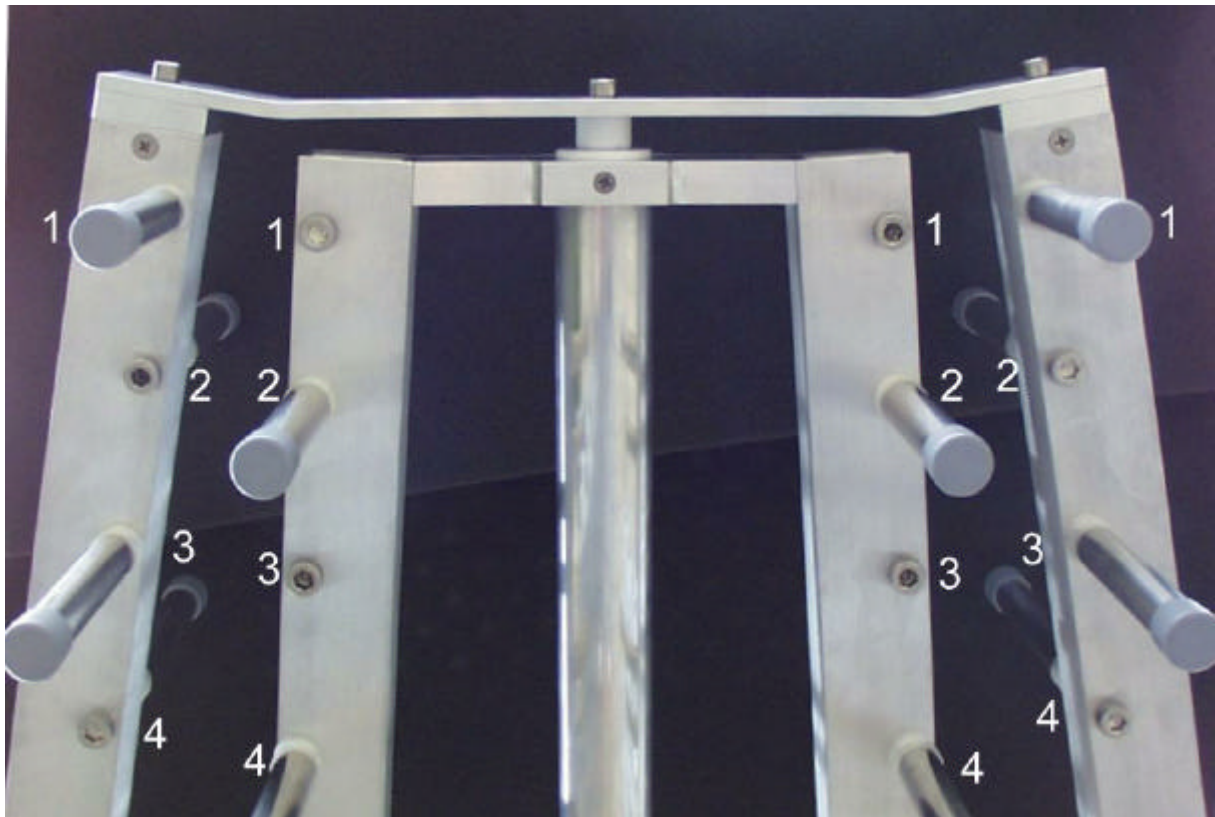
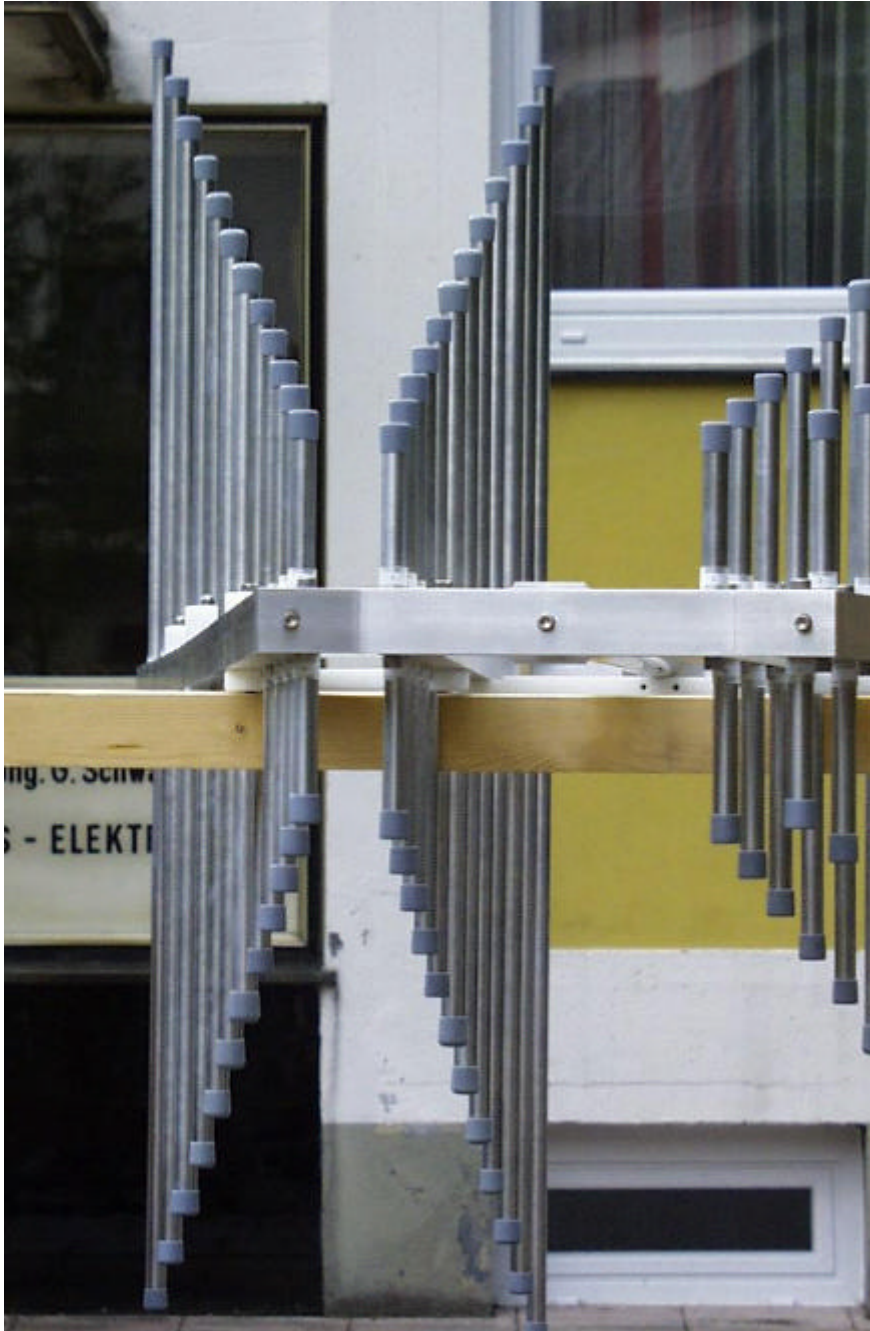

Figure 5: Antenna tip with aluminium bar and screw locations
Figure 6: View inside one LP wing with correct element assembly
**Step 3:** The aluminium elements are connected to the LP-wings. It is advisable to begin with the shortest 4 elements (labelled with 1) near the tip and to continue with the next larger 4 elements (labelled with 2) and so on. Figure 5 shows the correct element order and orientation. The INBUS wrench should be used for this work. Mixing up the element order causes frequency selective bandbreaks in the antenna performance. The correct element order can be checked best by examining each LP-wing from the front end and comparing it to figure 6. If everything is mounted properly, all screws should be checked with the correct torque. Another possibility to check for the correct mounting order is to measure the VSWR at the 13/30 connector. The VSWR should be less than 2.5 in the complete range.